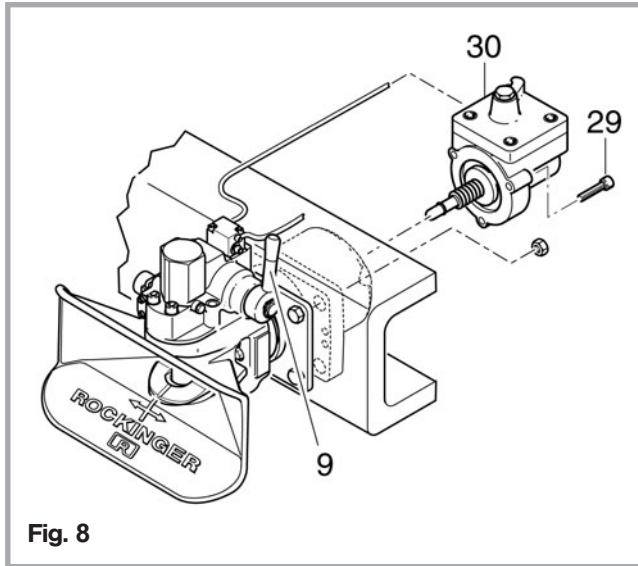

Fig. 8
10. Replacement of the hydraulic unit (see fig. 8)
- Open coupling with the hand lever (9)
- Loosen the tube on the hydraulic unit (30)
- Loosen 3 hexagonal bolts (29)
- Remove the hydraulic unit (30)